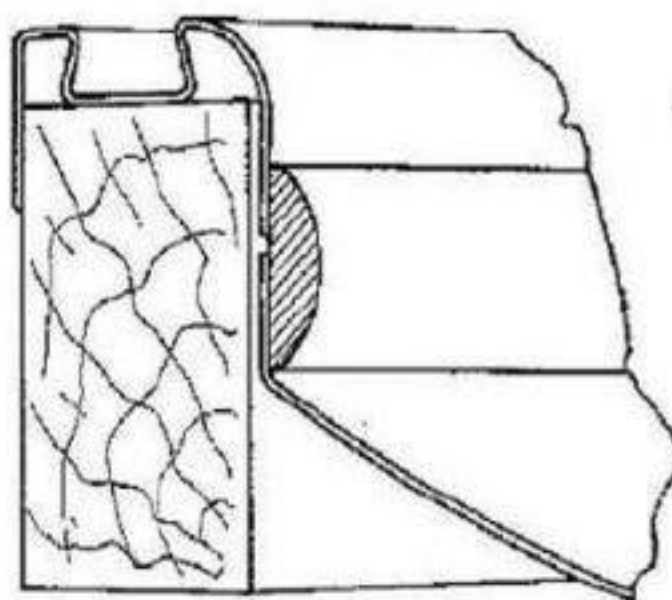

Fig. 4-1925 and Early 1926 Shroud Bar Cover and Shroud Flange Joint Construction
2. In models previous to V Series Cars, the shroud bar cover and shroud flange were constructed with a butt joint across the front of shroud bar. (See Fig. 4.) In an extreme case